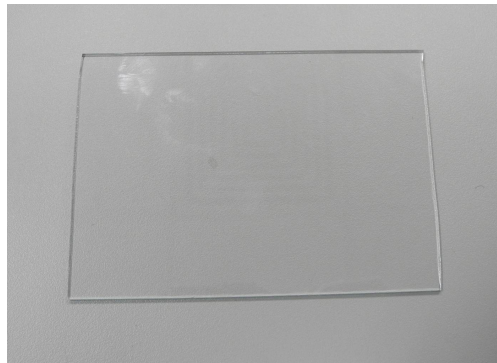

Figure 1 Control glass
- 4.2. Placed the tested glasses into the testing holder. Measured the IR Transmittance for sample 1 to sample 5 as shown in Figure 1 to 5.